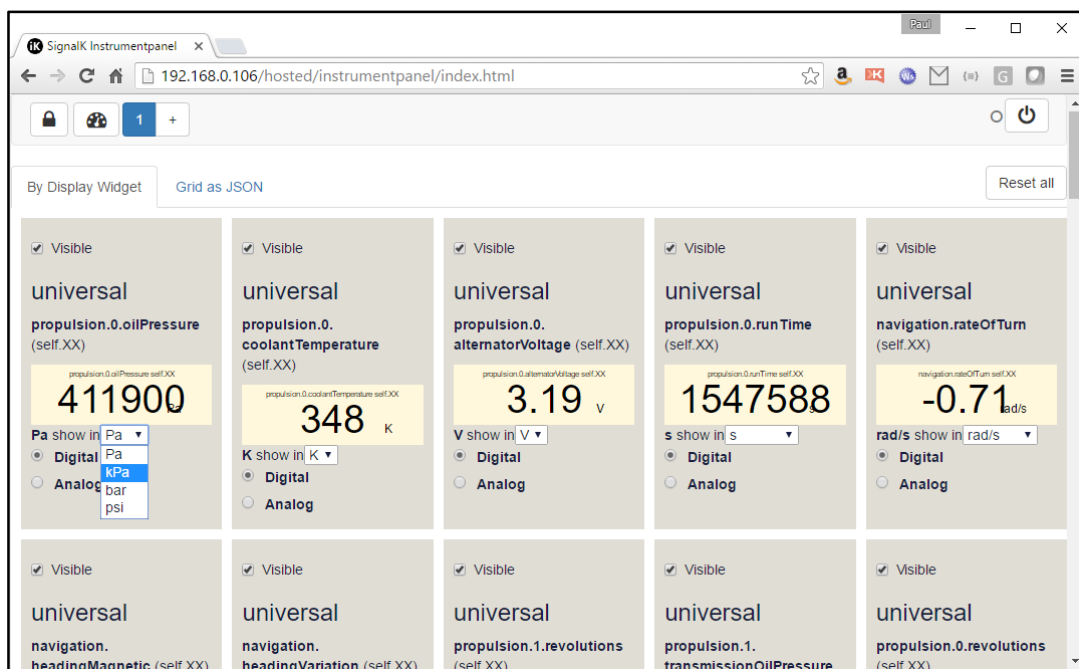

Figure 12
**Step 1** - Choose what panels to display by clicking the  button and you will see the page shown in Fig.12.